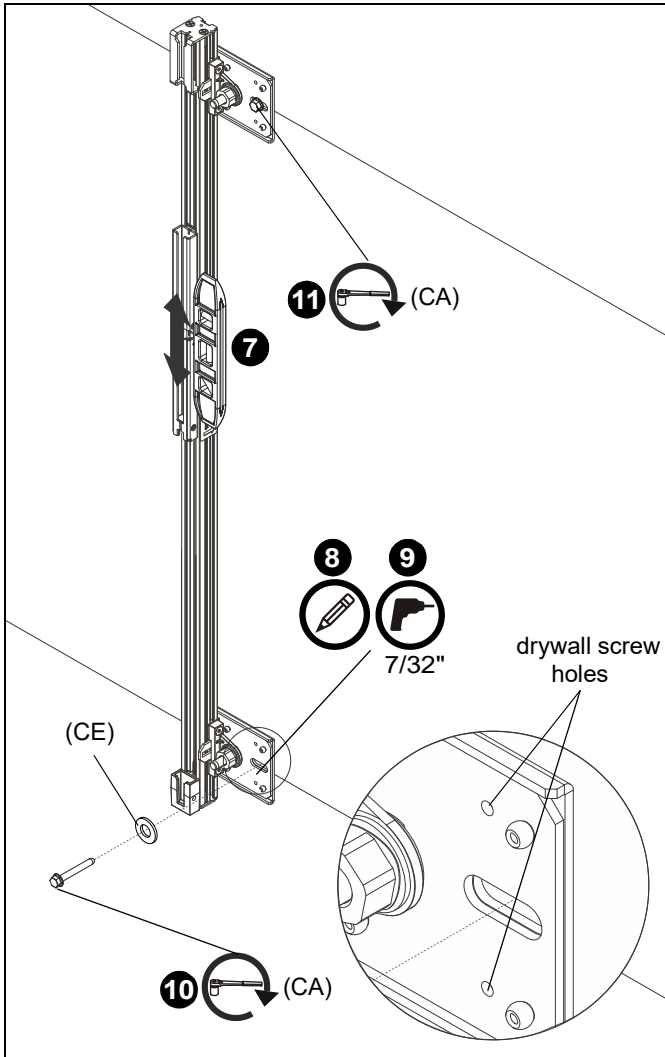

Figure 4
7. Slide the H-blocks together within the extrusion and attach a magnetic 2-foot level to side of upright. (See Figure 4)
8. Mark mounting hole location along lower line based on horizontal locations determined in Step 2a. (See Figure 4)
9. Level and drill a 7/32" hole at the location of the first lower mounting hole. (See Figure 4)
10. Use 5/16 x 2 1/2" hex head lag screw (CA) and 5/16" washer (CE) to install left upright (A) to wall at lower mounting hole. Center the lag bolt horizontally along mounting slot. (See Figure 4)
11. Hold mount upright and tighten upper lag bolt (CA) that was partially installed in Step 6. (See Figure 4)
Just a tip - Install a drywall screw (CC) through one of the smaller holes in foot to prevent the upright from "walking" in slot when tightening lag. (See Figure 4)